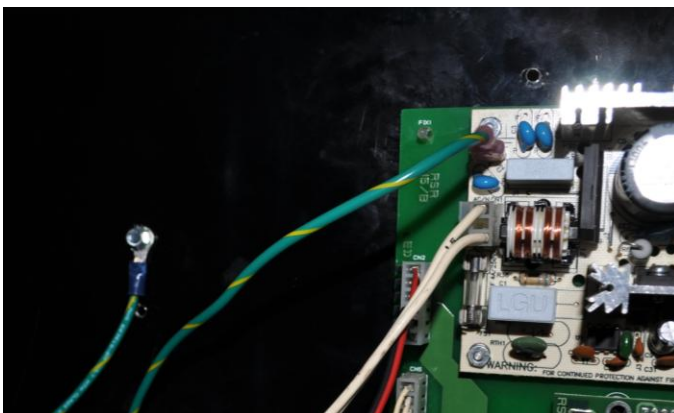

Figure 10
16. This UCB kit requires the power supply (VE5815) to be properly grounded. The kit is supplied with a ground wire attached to the ground connector on the power supply PCB. Using the supplied #8 self-tapping screw and the 2 – #8 star washers connect the ground wire to any solid sheet metal in the machine. The screw is self-tapping and self-threading and can be easily installed using a 1/4" driver bit and a drill. See Figure 10.